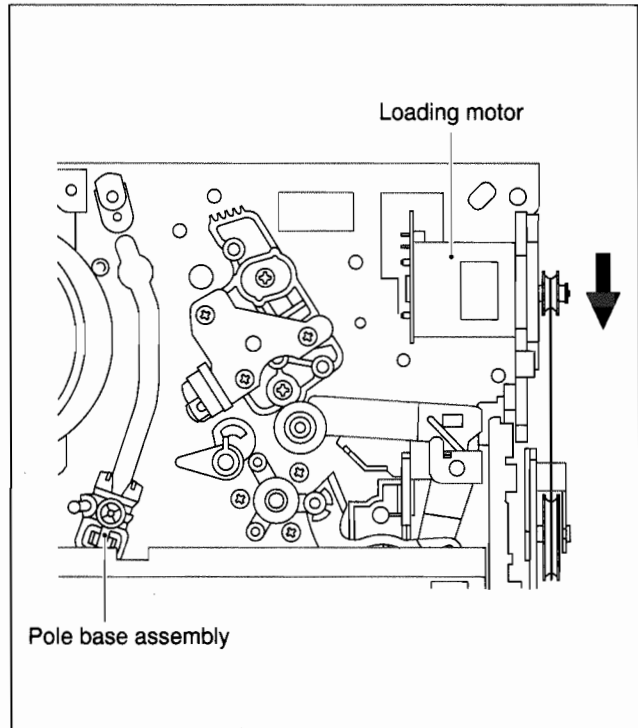
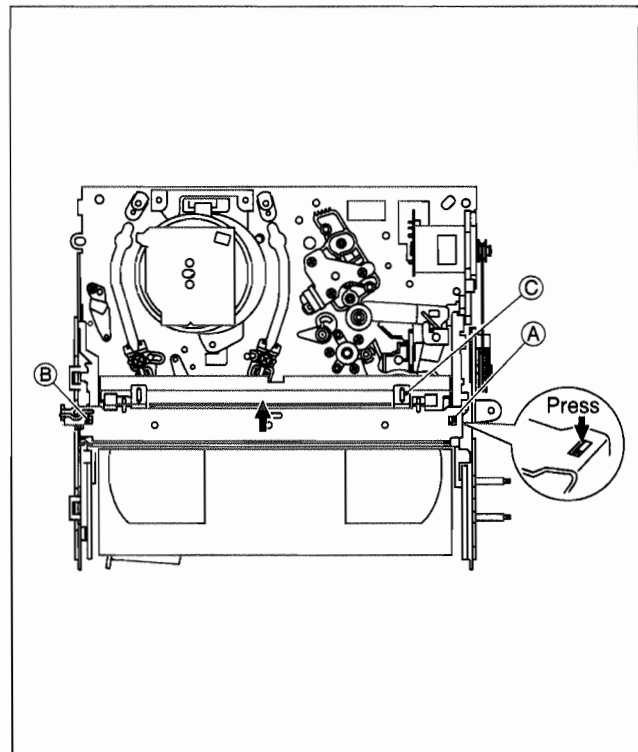

Fig. 2-1-1
Fig. 2-1-2
- (1) Unplug the power cable and remove the top cover, bracket and front panel assembly. (See 1.3 DISASSEMBLY/ASSEMBLY METHOD.)
- (2) Unload the cassette by manually turning the loading motor of the mechanism assembly toward the front. In doing so, hold the tape by the hand to keep the slack away from any grease. (See Fig.2-1-1.)
- (3) Bring the pole base assembly (supply or take-up side) to a pause when it reaches the position where it is hidden behind the cassette tape.
- (4) Move the top guide toward the drum while holding down the lug **(A)** of the bracket retaining the top guide. Likewise hold part **(B)** down and remove the top guide. Section **(C)** of the top guide is then brought under the cassette lid. Then remove the top guide by pressing the whole cassette tape down. (See Fig.2-1-2.)
- (5) Remove the cassette tape by holding both the slackened tape and the cassette lid.
- (6) Take up the slack of the tape into the cassette. This completes removal of the cassette tape.